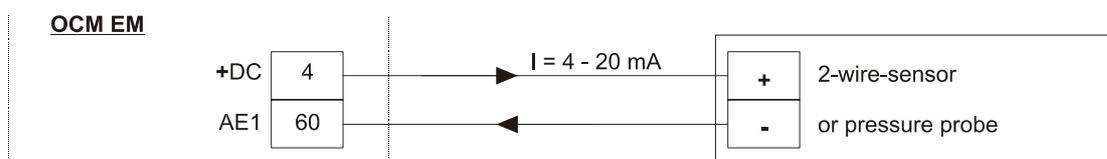

Figure 26. External 2- wire Sensor for level measurement
- Connection of a 2-wire-sensor, e.g. NivuBar Plus, Probe etc, which are loop powered to the OCM EM with 4-20mA supplied (Figure 26).